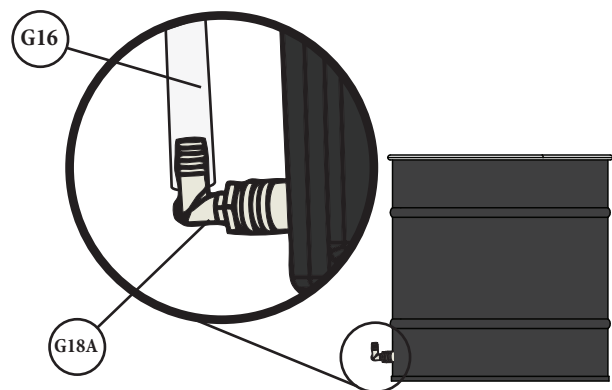

FIG. 29
Attach the other end of the Vinyl Tubing (G16) onto the Nylon Elbow (G18A) installed on the lower section of the Drum (L). Push the Vinyl Tubing onto the fitting so that all the barbs are covered [FIG. 29].